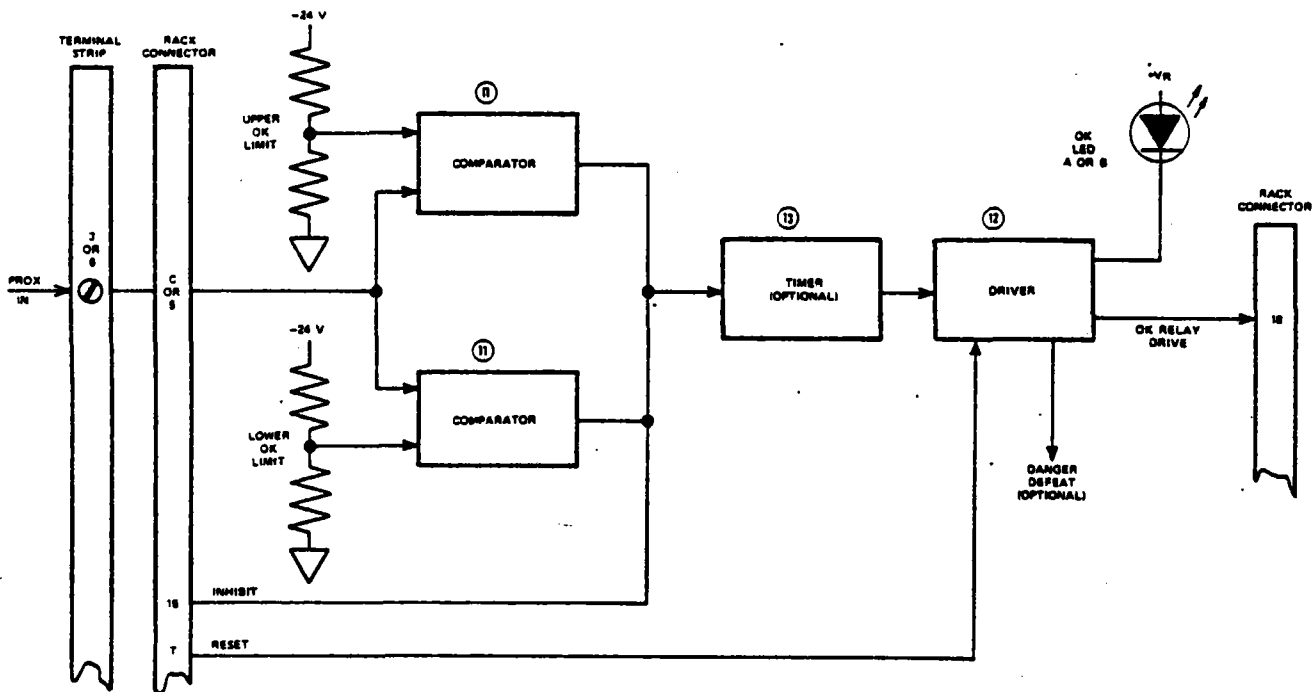

Figure 1-4. OK Circuit Flow Diagram
1-19 Figure 1-4 illustrates the OK circuit for one channel. The comparators ⑪ monitor the proximator output voltage to determine if it is between the upper and lower OK limits, which define the range of normal proximator operation. OK limit voltage values are listed in Section II, Transducer and OK Circuit Limit Test, for each proximator type.